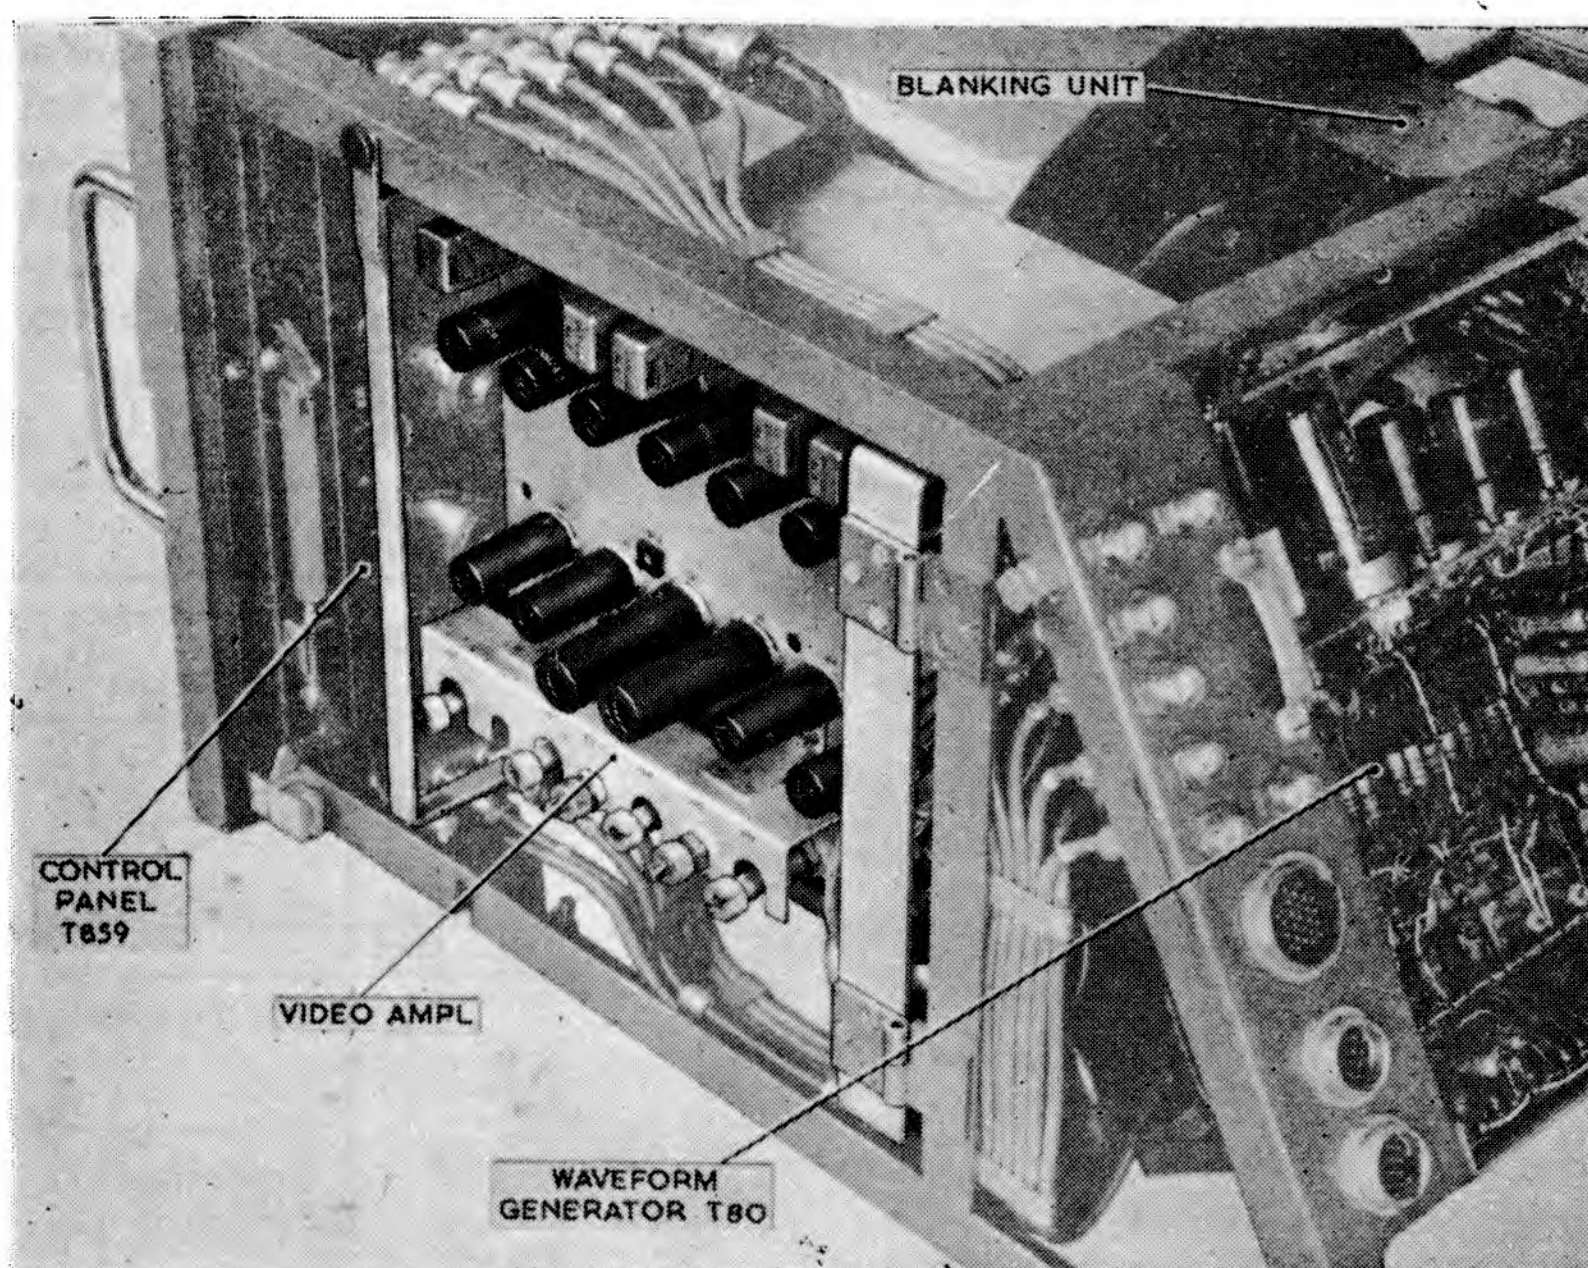
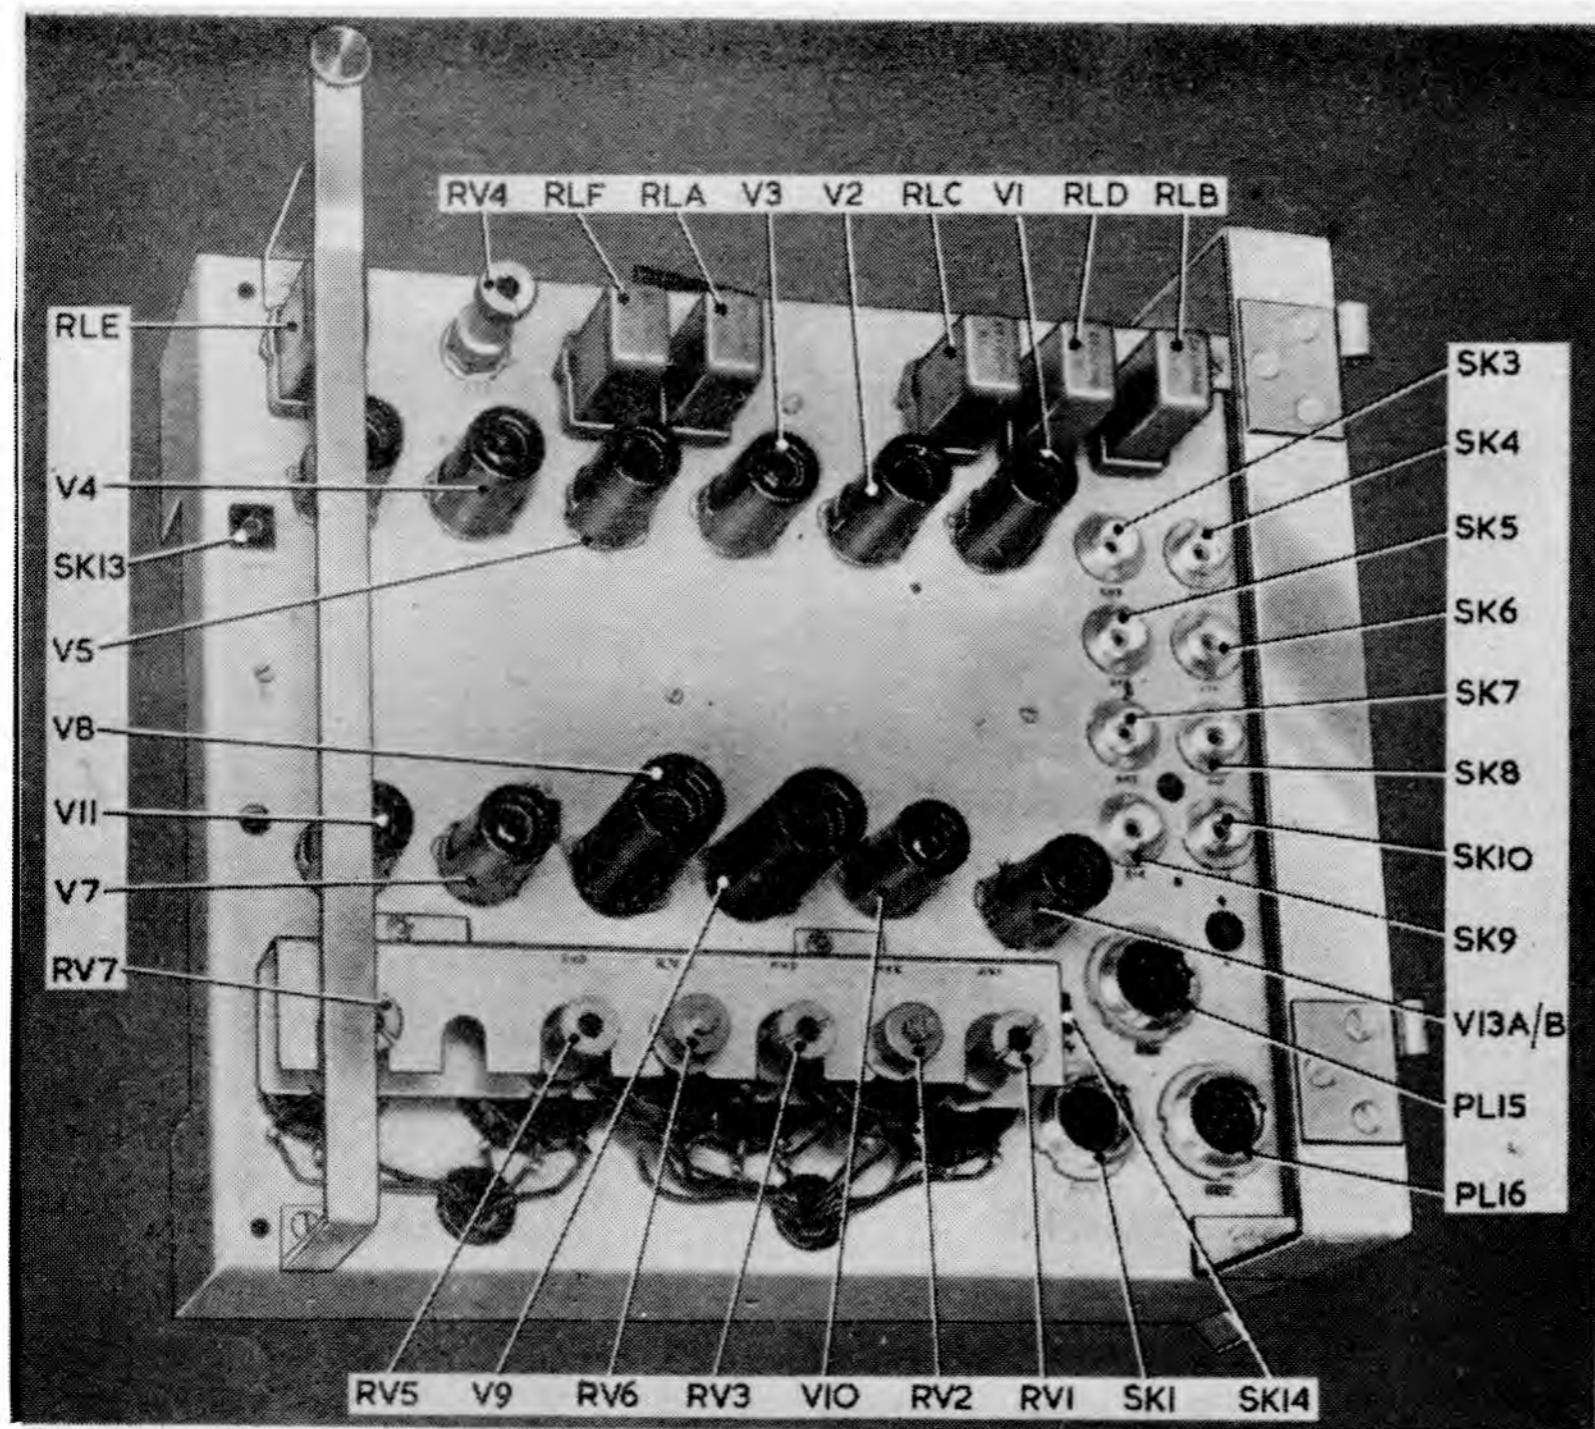

Fig. 1. Indicating unit, showing video amplifier
Fig. 2. Video amplifier—general view
6. The video amplifier is built on a 12 in. \times 11 $\frac{3}{8}$ in. \times 3 $\frac{1}{4}$ in. chassis which hinges into the side of the indicating unit. For servicing during operation the milled captive screw shown at the top left of fig. 1 is loosened and the unit swung out on the two hinges seen at the right. This procedure gives access to all the under-chassis components; if it is necessary to remove the unit completely, the console must be switched off, all connectors removed, and the chassis lifted right off the hinges. Fig. 2 is a closer view of the unit showing the location of principal valves, relays and controls; the layout of components below the chassis is shown in fig. 12. The unit weighs 12 $\frac{1}{2}$ lb.